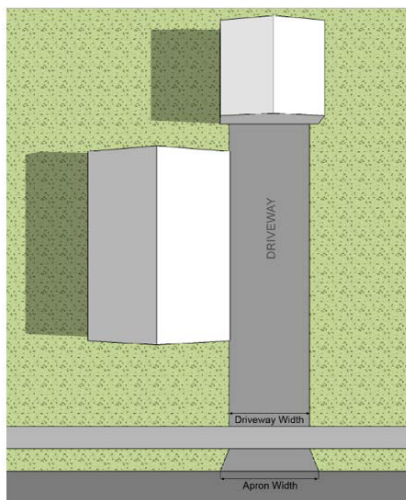

Fig. 3.A: Single & Two-Family Drive Width—Standard
- (3) *Driveway width.*
- a. Driveways shall be a minimum width of eight feet. Driveways leading to garages are limited to a maximum width of 25 feet at the property line and 30 at the curb/pavement line (2½ foot apron flares), but may increase to the width of the garage. See Figure 3.A: Single-Family and Two-Family Drive Width and 3.B: Single-Family and Two-Family Drive Width-Enlarged with Taper.